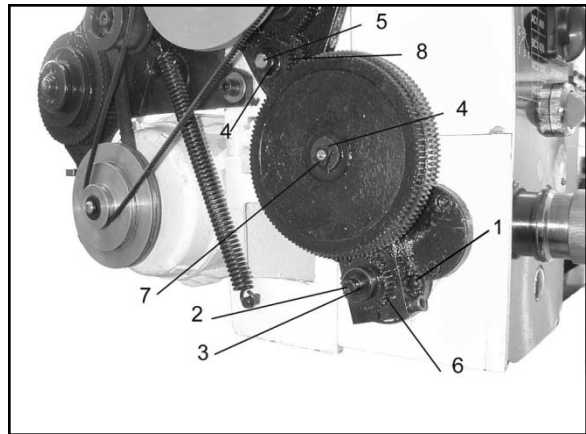

Figure 20
## Example of Gear Set-up to Cut 10 T.P.I. (Figure 20)
1. Loosen screw (1, Figure 20).
2. Loosen bolt (2). Remove washers (3) and gear (6).
3. Loosen bolt (7) to allow movement in the center gear position.
4. Loosen nuts (5). Remove washer (4) and gear (8).